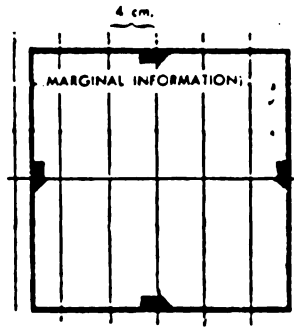

Figure 3
3. Construct the vertical grid lines exactly 4 cm apart perpendicular to the horizontal centerline and parallel to the vertical centerline. Consider the vertical centerline to be a grid line and step off the measurements. Extend the grid beyond the margin of the photograph so that a grid line falls outside of the image area on either side of the photo (fig. 3).